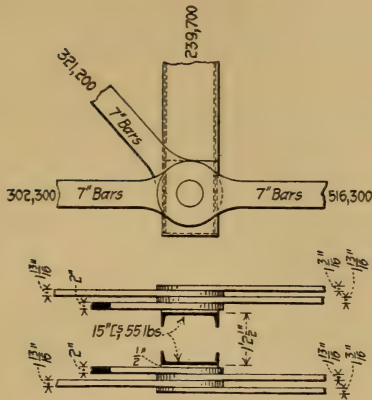

FIG. 2
2. In plate girder, Fig. 2, find spacing of rivets for a distance of 4 ft. from end "A"; also spacing of rivets between points X and Y. Allow 3 500 lb. bearing and 3 000 lb. for single shear per rivet.